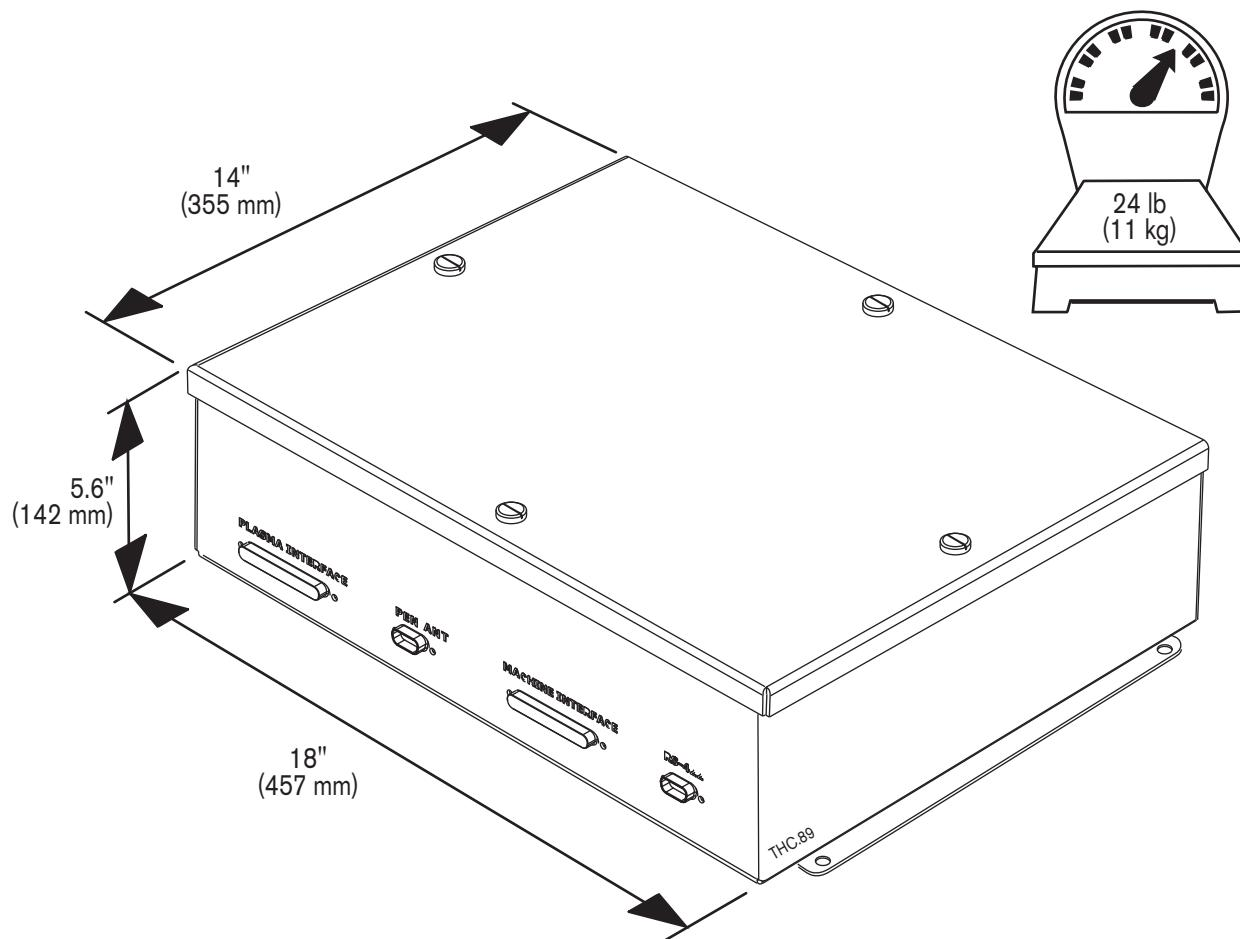

Figure 2-2 THC control module
- **THC control module** (Figure 2-2) The THC control module houses 2 microcontrollers, a realtime controller and an interface controller. This unit provides initial height sensing, arc voltage control and interfaces with the torch lifter, the CNC machine, operator pendant and the plasma power supply through standard discrete I/O interfaces and optional extended RS-422 serial interfaces.